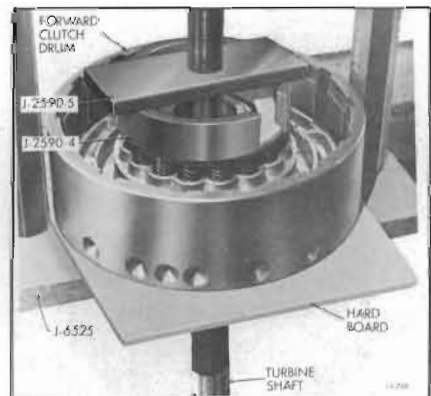

Figure 74-650
**NOTE:** If turbine shaft is not removed, compress spring retainer as shown in Figure 74-650.
**NOTE:** If turbine shaft was not removed install retainer as shown in Figure 74-650.